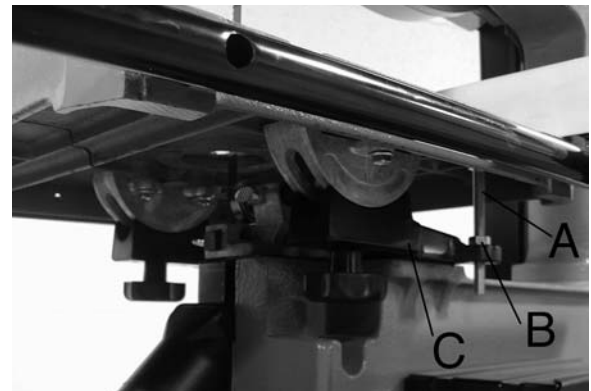

FIGURE 12
Your bandsaw is equipped with an adjustable stop (bolt-A- Fig.12) assembled to the table trunnion (C) to insure that the table is perfectly set at 90° to the table.